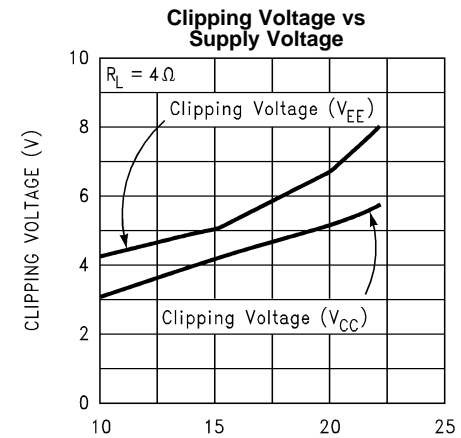
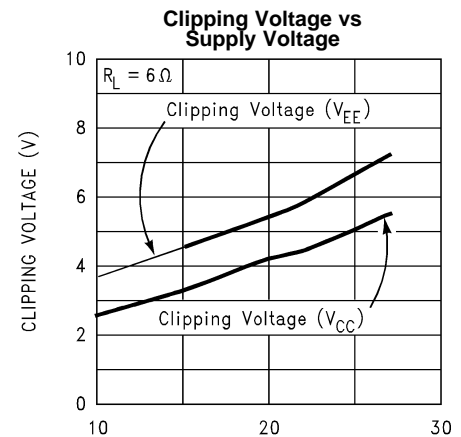
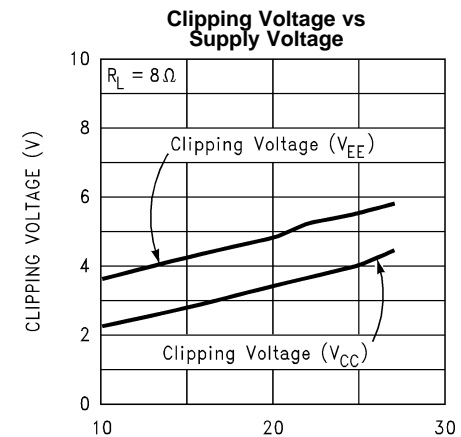

Figure 16.
Figure 17.
Figure 18.
(9) The output dropout voltage,  $V_{OD}$ , is the supply voltage minus the clipping voltage. Refer to Figure 16, Figure 17, and Figure 18 in Typical Performance Characteristics.